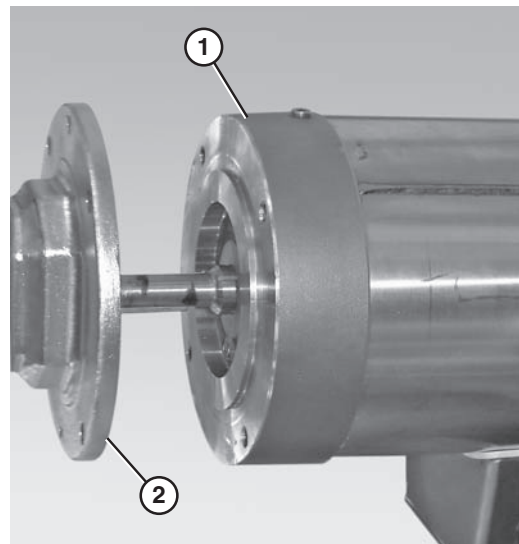

Figure 40
1. Attach the motor (**Figure 40, item 1**) to the gear reducer (**Figure 40, item 2**).